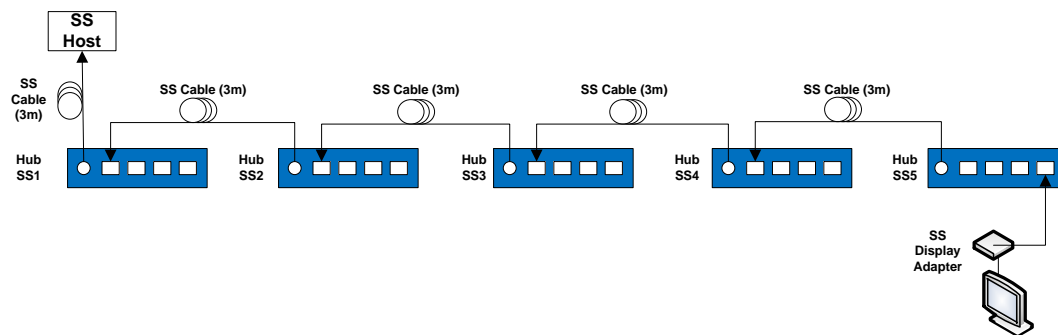

Figure 10-3: Modified Hub (SS Interoperability) Interim Tree - Display Device
- Connect HUTs as shown in Figure 10-3 (Note use of 5 hubs)